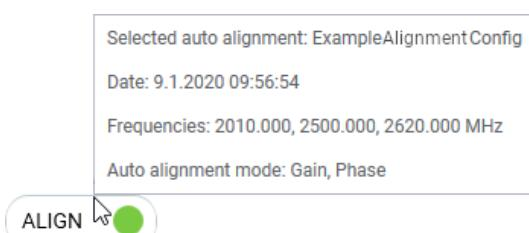

Figure 255 The **ALIGN** button and the tooltip when the auto alignment is in use
- The alignment is saved and taken into use (see Figure 255).